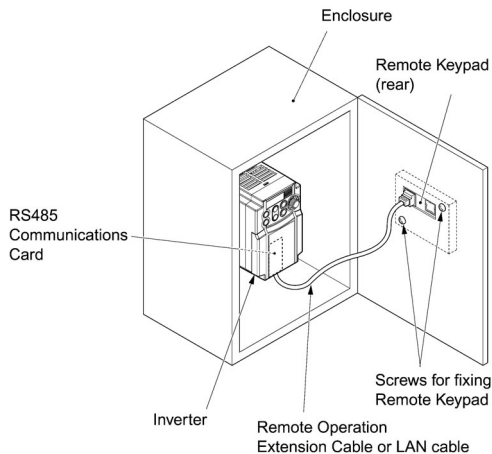

Figure 2.1 To Install the Remote Keypad on an Enclosure
- To install the Remote Keypad on an enclosure (see Figure 2.1):